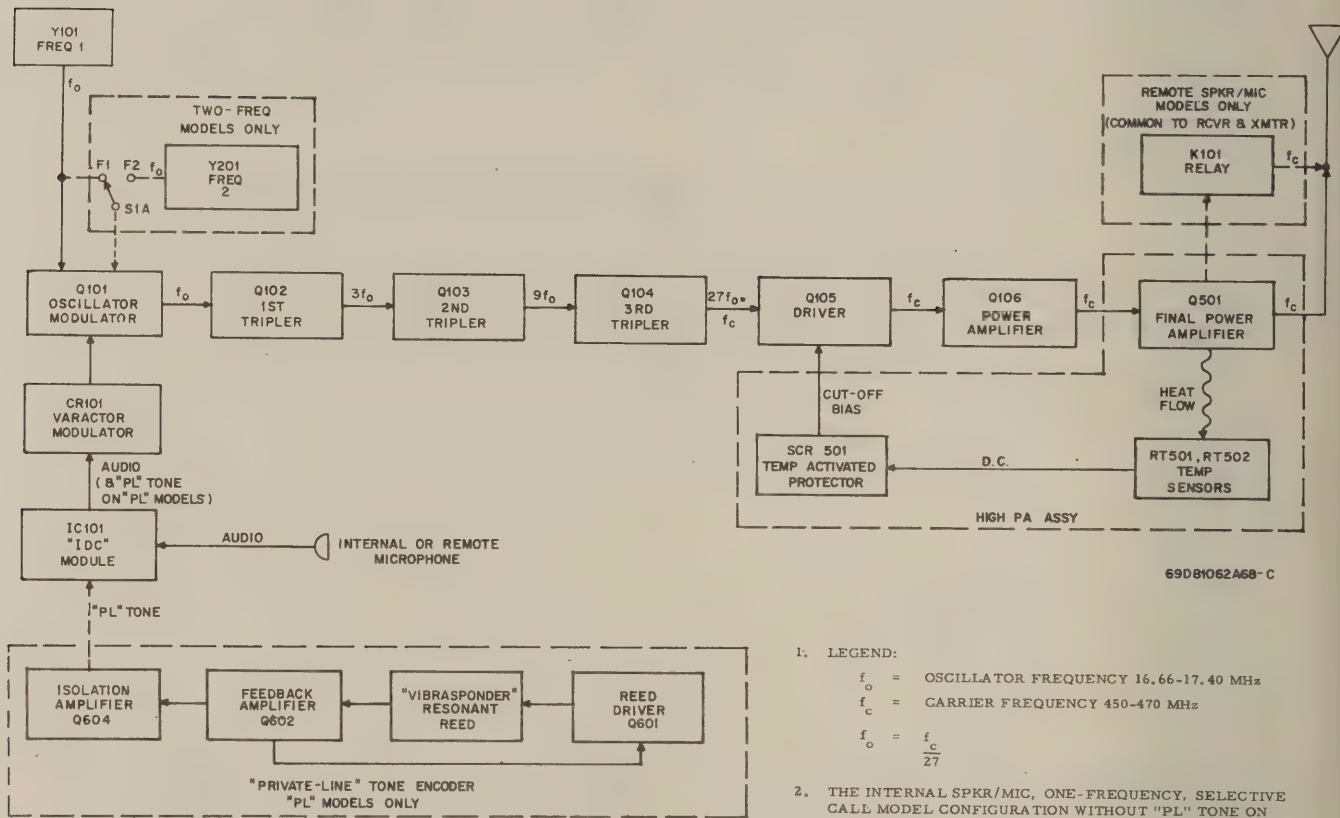

Figure 3. Typical 4-Watt Transmitter Block Diagram
(2) Transmitter (H34FFN 4-Watt Models) Refer to Figure 3